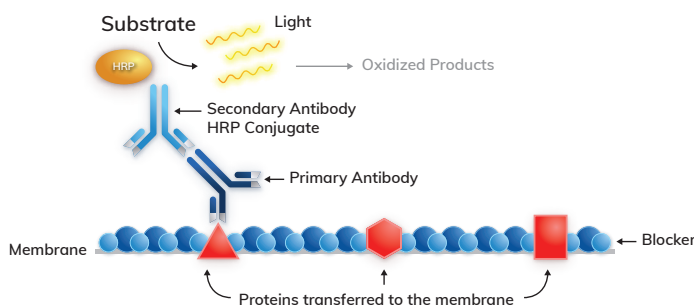

Figure 4.1. The principle of chemiluminescent Western blotting.
Since 1988, enhanced chemiluminescence or ECL (1) has become one of the most common detection methods in Western blotting (2). In this method, the secondary antibody is conjugated to the enzyme Horseradish peroxidase (1,2). Once bound to the membrane, the secondary antibody is detected by incubating the blot with a solution containing an HRP substrate that generates a light-emitting product after reaction with HRP (Figures 4.1, 4.2). The chemiluminescent signal can be detected by exposing the blot to X-ray film, or by imaging with a CCD camera. Radiance is an enhanced chemiluminescent substrate specially developed for CCD imaging. Radiance produces a bright signal with very low background for extremely high sensitivity and a detection limit of attomoles of protein. Additionally, the Radiance signal is long lasting, which combined with the low background, allows long-term exposures to detect low-abundance proteins.